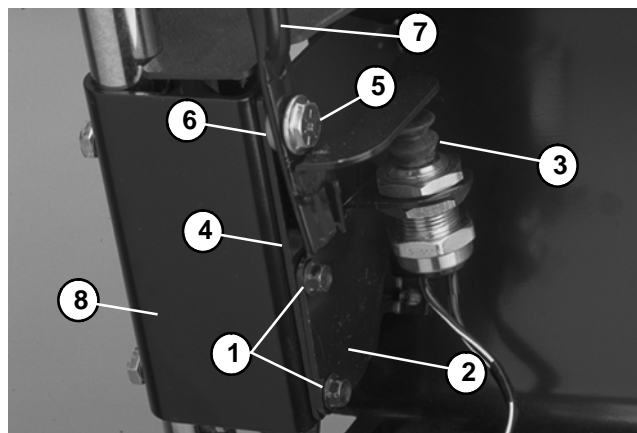

Figure 6
6. Gain access to the brake lever and brake cable as follows (Fig. 6):
2. Reinstall bail assembly and brackets. (Fig. 6).